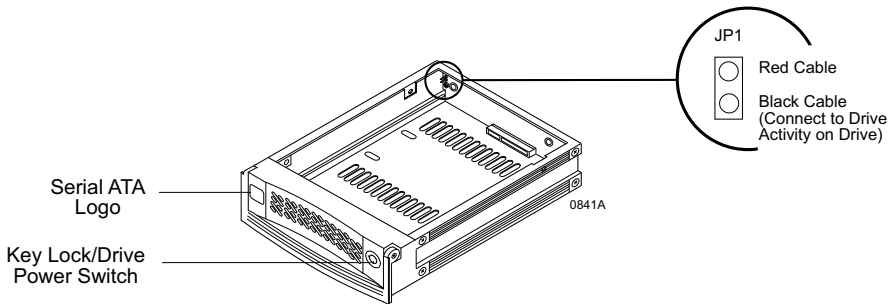

Figure 4: SATA Drive Carrier
1. Drive connection (cable included) to JP1 located on Drive Carrier Board (Figure 4).
(Figure 4)
If drive supports the Activity Indicator feature, connect one end of the Activity Indicator Cable (provided) to the drive and the other end to JP1 located on Drive Carrier Board (Figures 4 & 6).